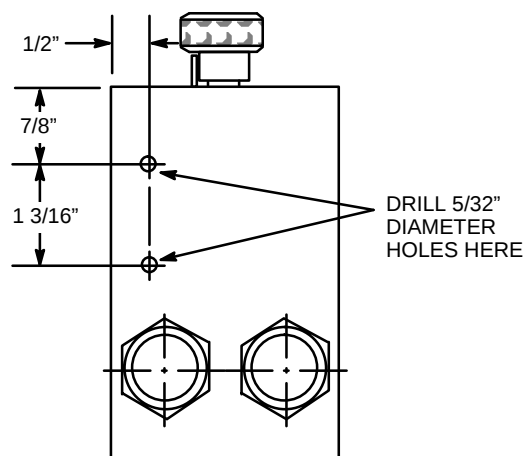

Fig 1
3. Drill two holes in the side of the control box. See Fig 1.